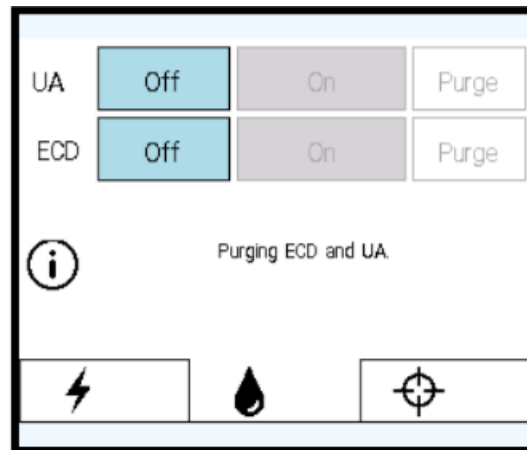
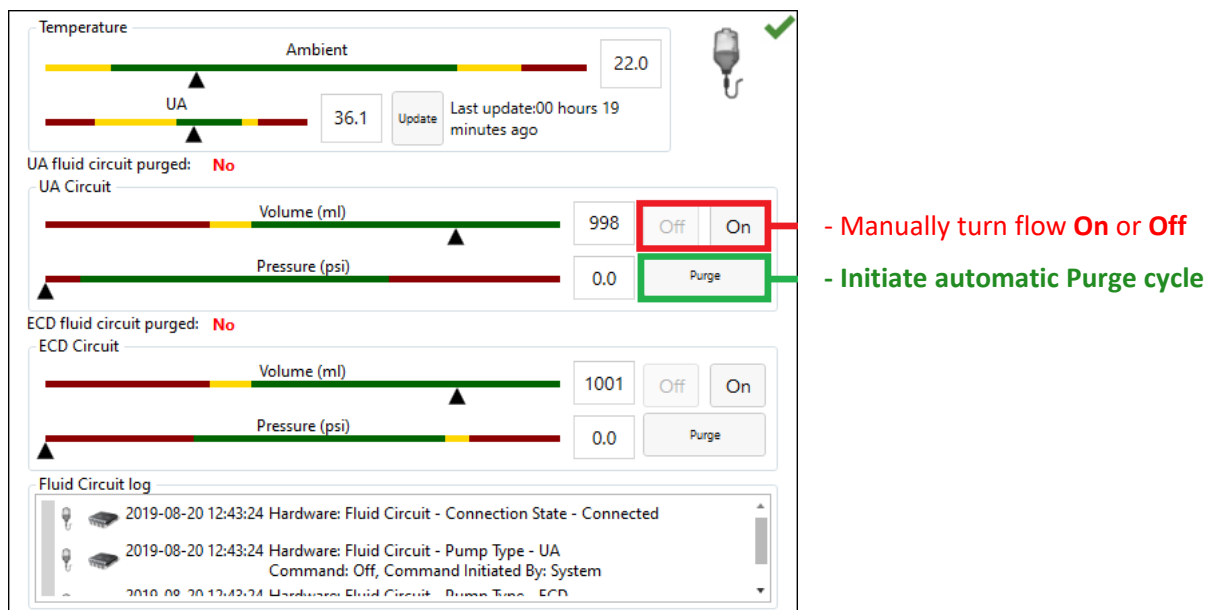

Figure 10: PSIB Display - Fluid Circuit tab
Figure 11: Fluid Circuit information box in TDC Setup workspace
5. On the PSIB display, choose the **Fluid Circuit** tab  (Figure 10) and **Purge** the UA and ECD fluid circuits. You can also do this from the TDC by pressing **PURGE** beside the fluid circuit (FC) quadrant (Figure 11).
- a. If the purging cycle ends before completing the steps in this process, return to the PSIB display (or TDC window) and manually turn the flow on by clicking **On**. The fluid pumps will remain on until you click **Off** (*Figure 11*).